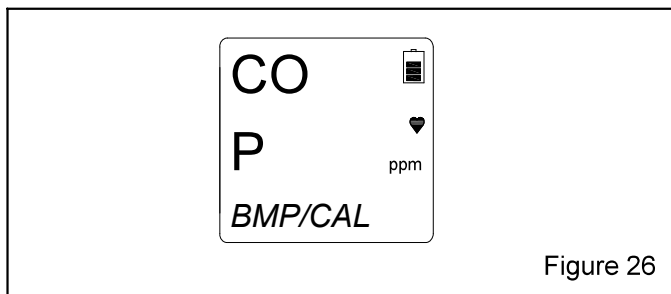

Figure 26
5.6.9 If the bump test passes, the LCD will display P (passed) and BMP/CAL, as shown in Figure 26. Proceed to Section 5.6.11.